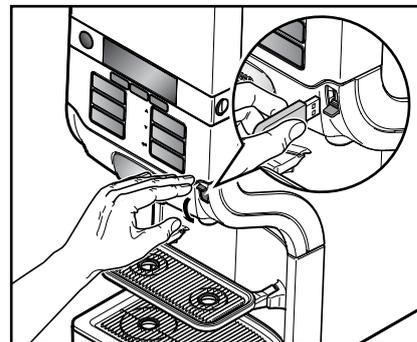

Fig. 23
3. To unlock the dispenser, press the LOCK/Clear-Error switch again to enable drink delivery (fig. 23).
- Insert the USB release key into the USB port on the dispenser to enable temporary drink delivery (fig. 23).